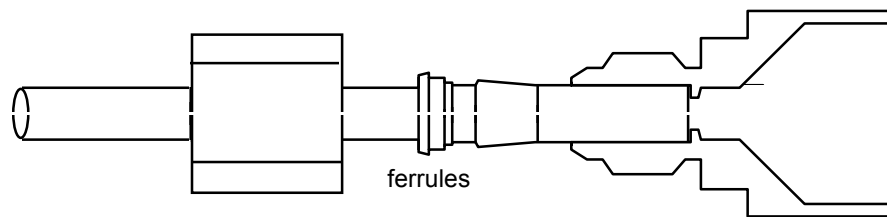

Figure 2-3 Orientation of Swagelok compatible couplings
2. Check that the ferrules are positioned as shown in figure 2-3.